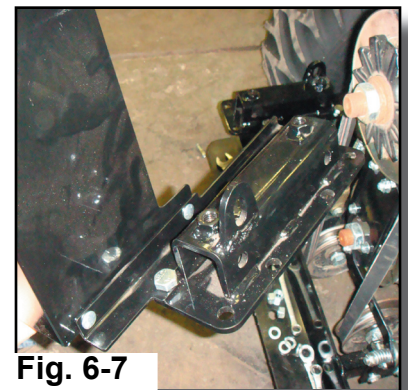

Fig. 6-7
9. Use the 1/2"-13 x 1" bolt and 1/2"-13 whiz nut, included in kit, to connect pulley guard to the mounting bracket (Fig. 6-7).